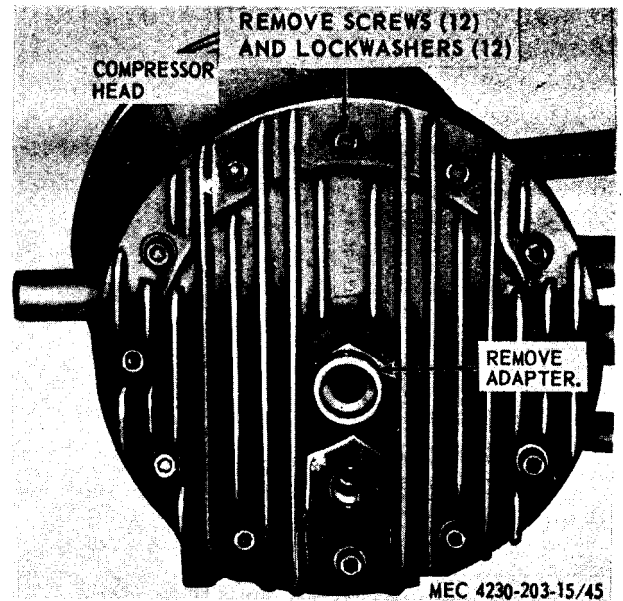

Figure 4-34. Compressor heads removal and installation.
- (1) Remove the manifold tubing.
- (2) Remove the blower shroud (para 4-34).
- (3) Remove the compressor air cleaners.
- (4) Remove the outlet valves (para 4-35).
- (5) Refer to figure 4-34 and remove the compressor heads.
- (1) Refer to figure 4-34 and install the compressor heads and shims if applicable.
- (2) Install the outlet valves (para 4-35).
- (3) Install the compressor air cleaners.
- (4) Install the blower shroud (para 4-34).
- (5) Install the manifold tubing.